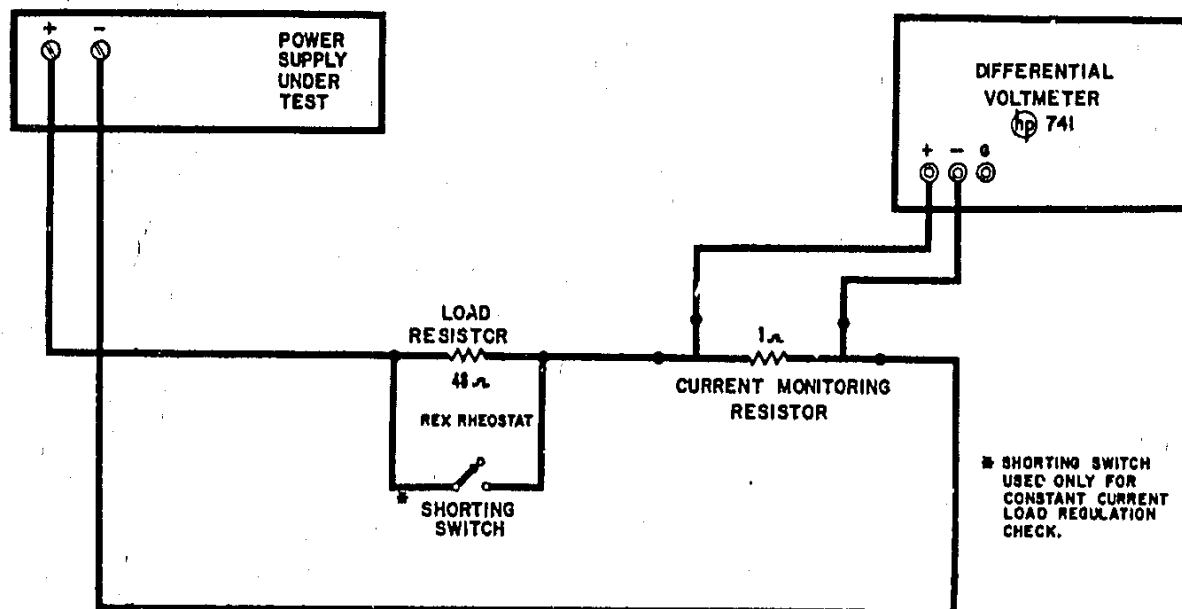

FIGURE 5-3. CONSTANT CURRENT TEST-SETUP
- a. Connect test setup shown in figure 5-3.